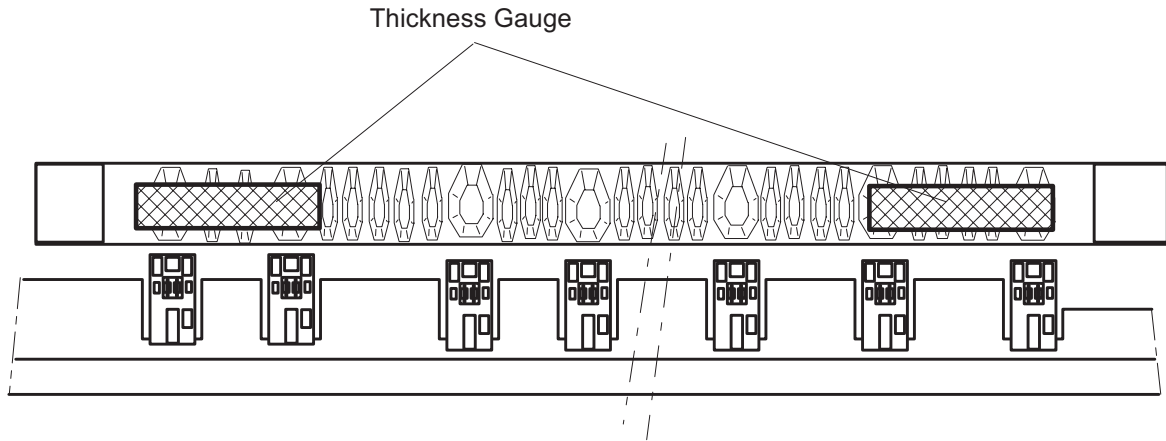

Figure 4-1. Thickness Gauge Placement
2. Place the thickness gauges at the illustrated positions in Figure 4-1.